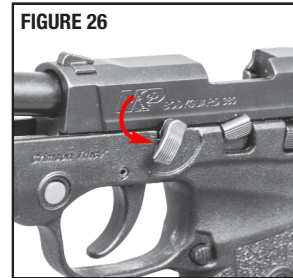

FIGURE 26
- Remove the takedown lever from the frame by grasping it and rotating it past the 9 o'clock position and pulling it out of the frame (FIGURE 26). Some wiggling of the takedown lever may be required to get it out of the frame.